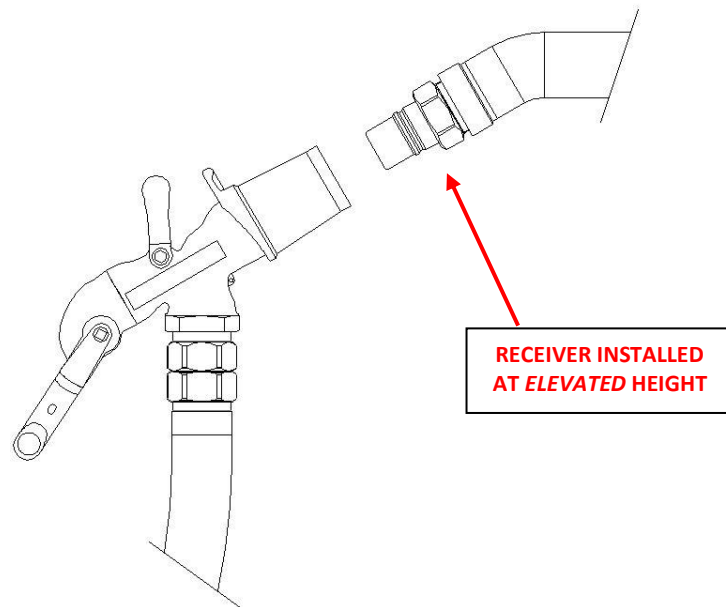

Figure 16 - Angled (Down) Orientation of Receiver
- If the Receiver is installed at a height **above** (human) chest height (i.e. above approx. 1.2m, 4'), end-users may benefit from the installation of the Receiver in a **downwards** orientation – as per Figure 16.